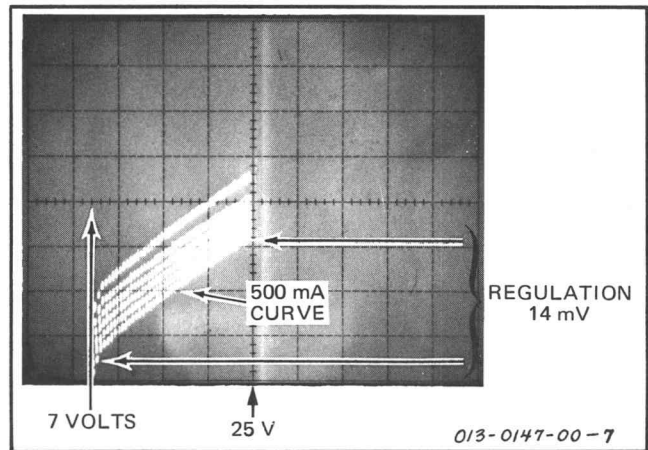

Fig. 2-10. Illustration of Example 2, part I.
l. Set the SWEEP AMPLITUDE to midrange. It may be necessary to change the VERT UNITS/DIV switch to keep the left end of the display on screen. See Fig. 2-10.